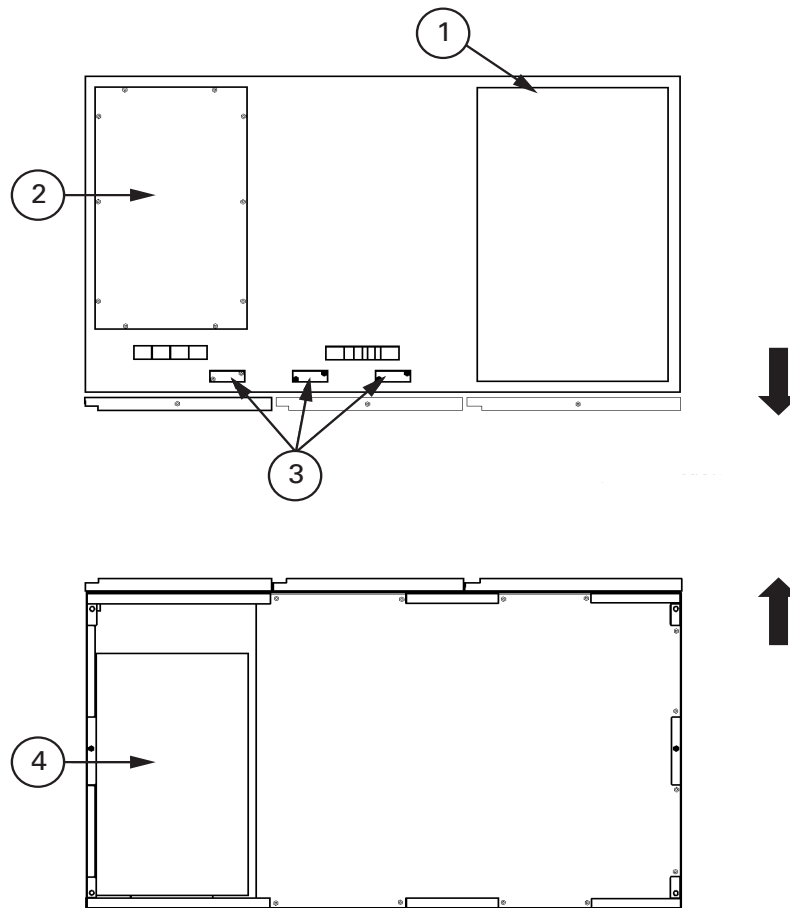
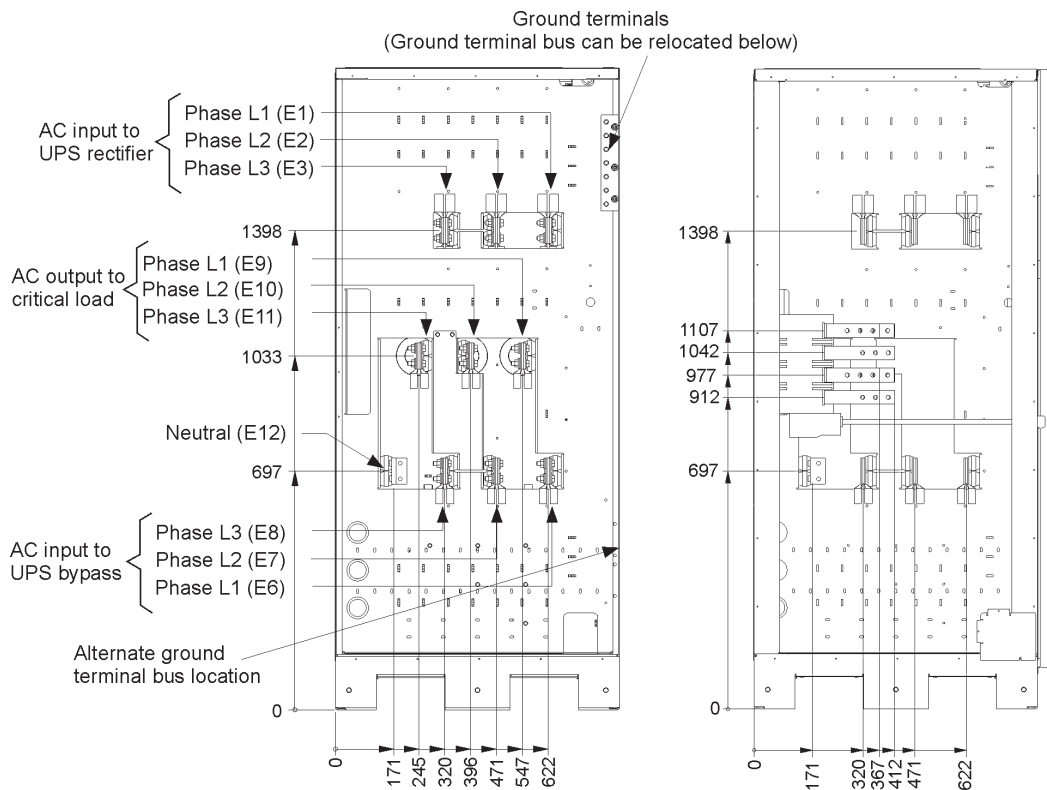

Figure 4-4. Conduit and wire entry locations
Figure 4-6. UPS power terminal detail AA
Remove the UPS cabinet top or bottom conduit landing plate to drill or punch conduit holes (see Figure 4-4).
1. Remove one top screw and two bottom screws securing the UPS left front panel (see Figure 4-4 on page 31). Lift the panel straight up to remove from the panel hanger bracket at the top of the cabinet.
2. Route the input and output cables through either the top or bottom of the cabinet to the UPS terminals. See Figure 4-4 through Figure 4-6 for wiring access information and common rectifier feed terminal locations.
See Figure 4-6 for detail AA.
2. Route and connect the battery cables between the UPS and the battery cabinets in accordance with the instructions in the Eaton 9395P Integrated Battery Cabinet (Model IBC-L) installation manual. See Figure 4-4 through Figure 4-6 for wiring access information and terminal locations.
5. Route and connect the battery cables between the UPS and the battery system. See Figure 4-4 through Figure 4-6 for wiring access information and terminal locations.
8. Remove the UPS cabinet top interface entry plates to drill or punch holes (see Figure 4-4 on page 36).